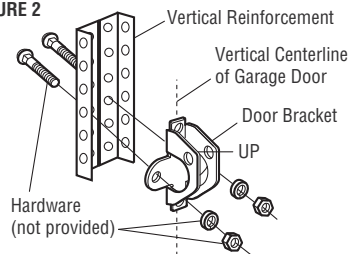

FIGURE 3
1. Drill 3/16" fastening holes. Secure the door bracket using the self-threading screws. (Figure 3)